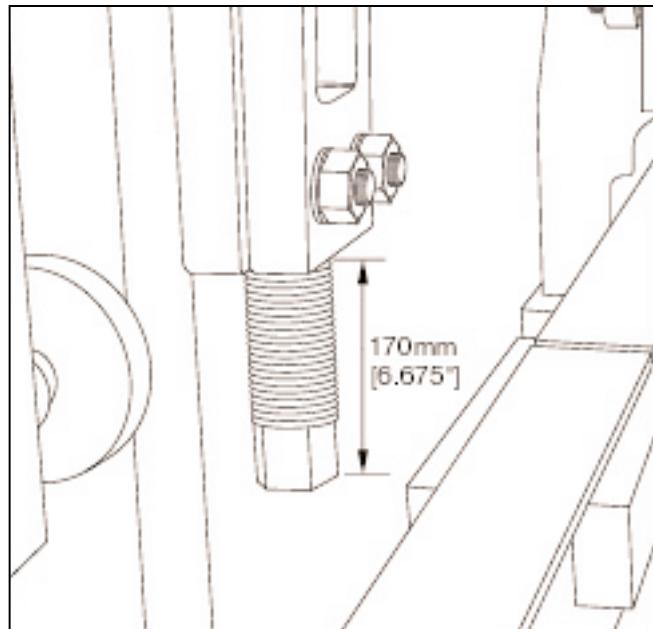

Figure 4.60 UPPER HEIGHT STOPS.
4.4.6 Adjust the upper height stops (**part #047356**) so that **170mm [6.675"]** extend past the bottom of the castings (figure 4.60).